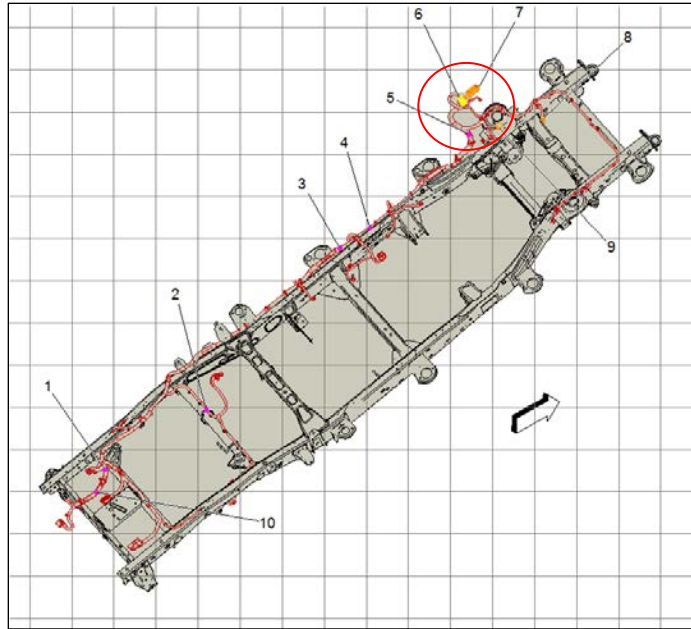

Figure 2
The Output from AM Brake controller is in the Chassis inline connector X138_32 (40-way connector) located next or near the UEC (refer to item 6 in figure 2)